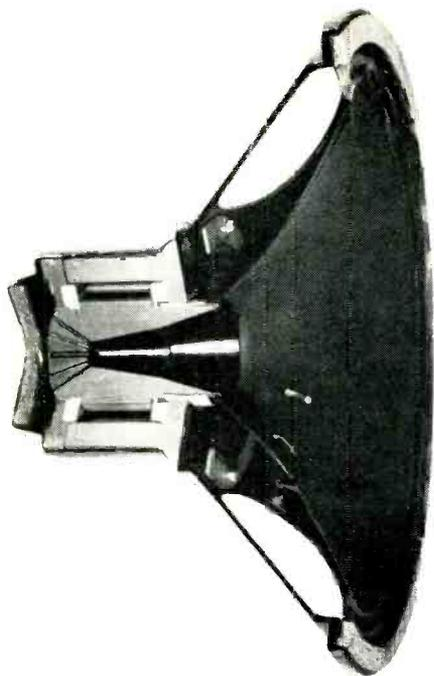

Fig. 67. The Tannoy dual concentric has a single field magnet but two entirely separate voice coils.
*Tannoy Ltd., Norwood Road, West Norwood, London S. E. 27, England,* is an old-established firm which became famous during the war among seagoing Britishers for the intercoms and ships' p. a. systems they made—so much so that one was instructed to call someone on the Tannoy much as we would say "Kodak" when referring to any camera or "Frigidaire" for any mechanical refrigerator. A principal product is the dual concentric shown in Fig. 67, with